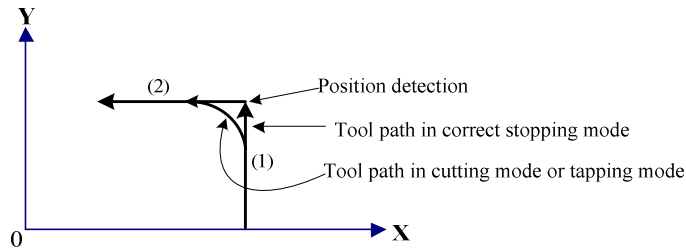

Figure 4-8-1-1 Tool path from Program Segment 1 to Program Segment 2
4. In exact stop mode, cutting mode and tapping mode, the tool moves along different paths. See Figure 4-8-1-1 below for details.